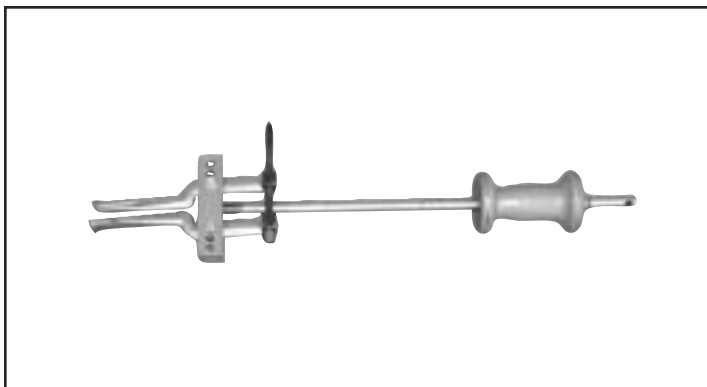

FIGURE 1
- A)** Remove all shaft components from the shaft, (21), (i.e., keys, wire rings, nuts). To aid in reassembly of the motor, make a "V" shaped set of lines from the endcover to the housing using either paint or a marker. With the shaft facing down, secure the motor in a vise by clamping onto the housing, (8). Loosen and remove the seven bolts, (20), holding the motor assembly together. Remove the endcover, (18), from the motor.
- B)** Remove the balance plate, (16), rotor set, (15), and the manifold, (14), from the motor. Remove all seals from the components and discard. (Caution - when removing the balance plate, do not allow the three check balls, (17), to fall out from the plate.) (Caution - do not allow the rolls to drop out from the rotor set assembly when removing the assembly from the motor.) Remove the manifold from the motor and lay aside. Remove drive link, (13), from the motor and lay aside. Remove the thrust bearing, (12), from the housing and lay aside. From the front of the housing, gently tap the shaft, (21), upward and remove through the rear of the housing.
- C)** Using a slide and hammer type bearing puller, (see Figure 1), remove the rear housing bearing, (11), from the housing. Remove the thrust bearing, (10), and lay aside, remove the thrust washer, (9), and lay aside. Remove the shaft seal, (4), and discard, remove the back-up seal, (3), and discard, remove the metal shim, (2), and discard.